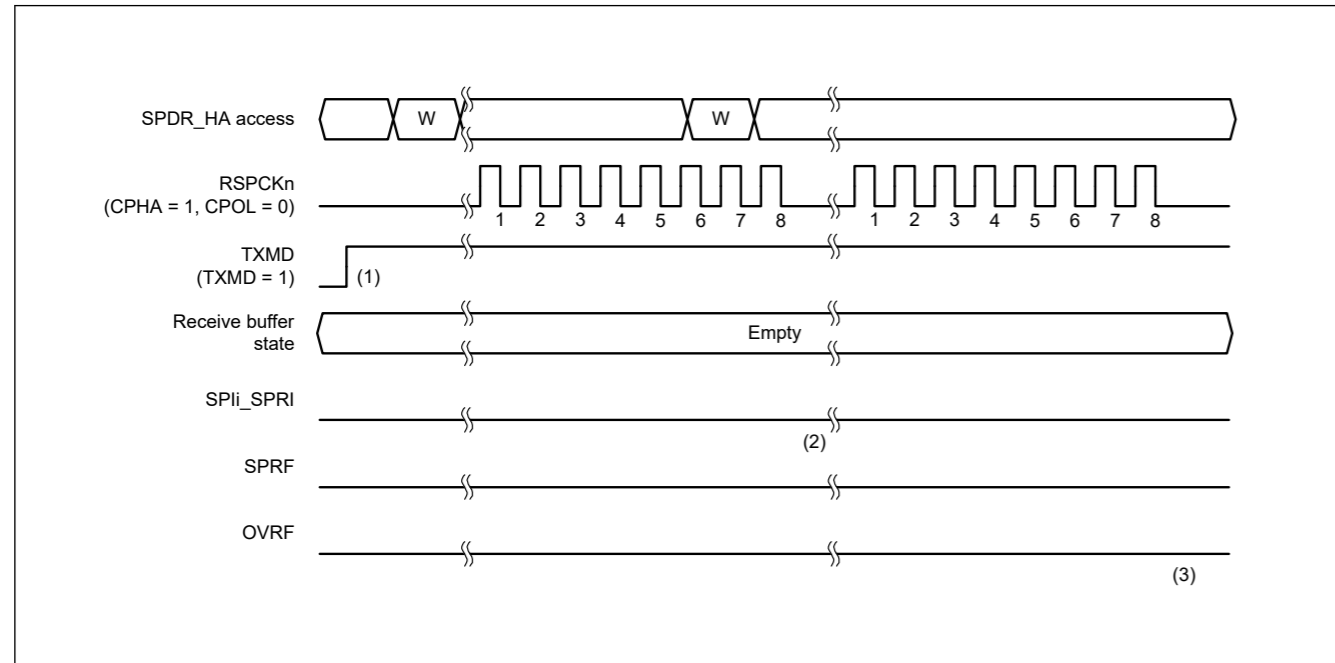

Figure 27.25 Operation example when SPCR.TXMD = 1
Figure 27.25 shows an example of operation when the Communications Operating Mode Select bit (SPCR.TXMD) is set to 1. In this example, the SPI performs an 8-bit serial transfer when the SPCMD0.CPHA bit is 1, and the SPCMD0.CPOL bit is 0. The numbers given for RSPCKn in the waveform represent the number of RSPCK cycles, such as the number of transferred bits.
The operation of the flags at timings (1) to (3) in Figure 27.25 is as follows: